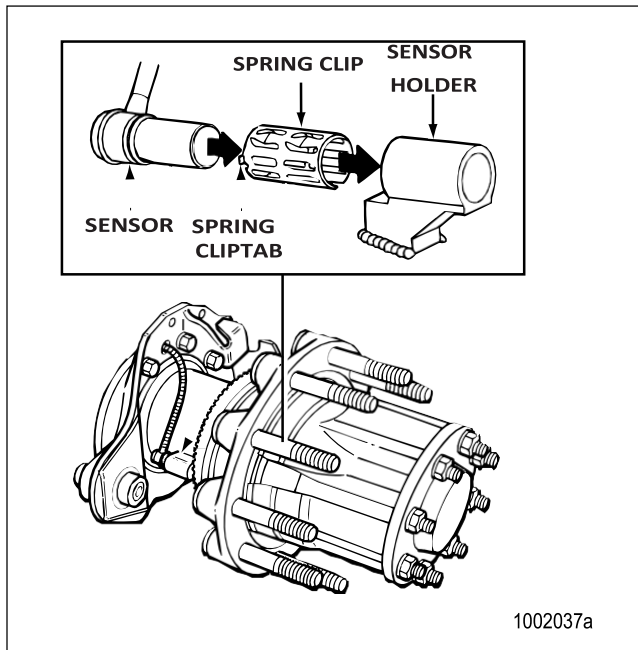

Figure 4.3
4. Push the sensor completely into the sensor spring clip until it contacts the tooth wheel. Figure 4.3.